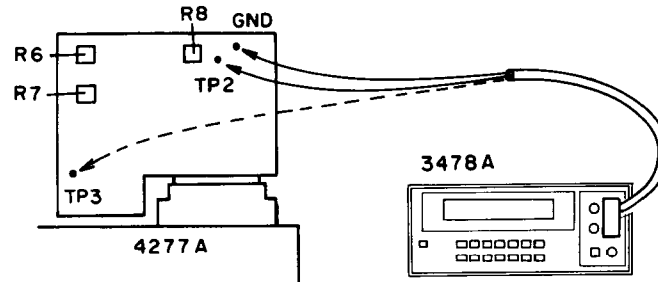

Figure 5-14. INT DC Bias Supply Adjustment Setup.
1. Extend the A22 board as shown in Figure 5-14.